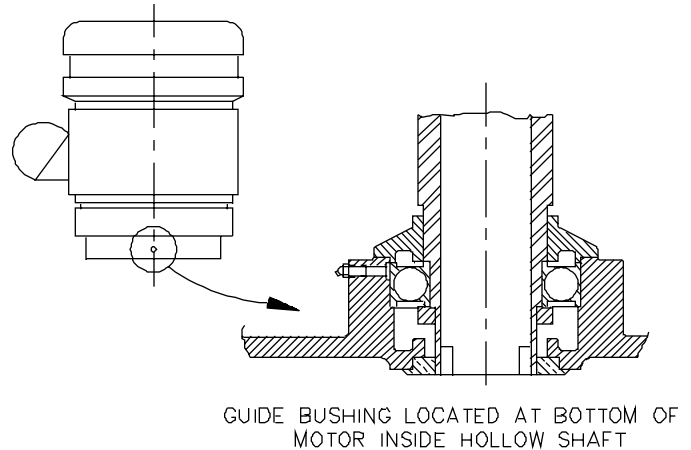

Fig. 3.3 Motor Guide Bushing Location
4. Some electric motors will be supplied with a "lower guide bushing" which is installed at the bottom of the motor to stabilize the shaft at this point. Some motor manufacturers mount this guide bushing before shipping while others will ship the guide bushing with instructions for field mounting. Check the packing slip to see if a guide bushing is required, if so, determine if the bushing is already mounted or not and proceed accordingly. See Fig. 3.3.